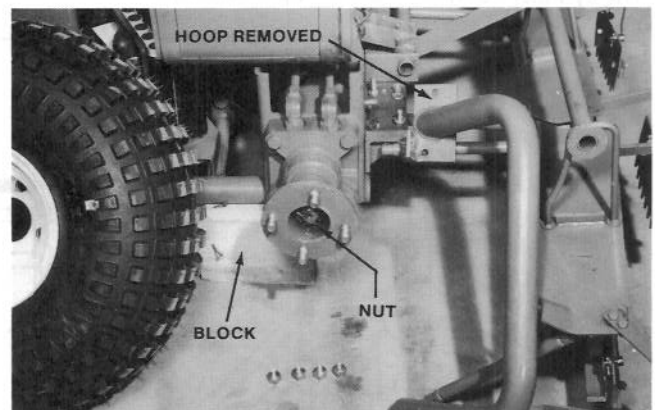

Figure 20
2. Place a jack (or one of the shipping blocks) under the tubular frame (Fig. 20).
3. Remove the two capscrews holding the wheel hoop to the frame, and move the hoop to the rear. It is not necessary to disconnect the tie rods (Fig. 20).
5. Remove the nut from the motor shaft (Fig. 20).